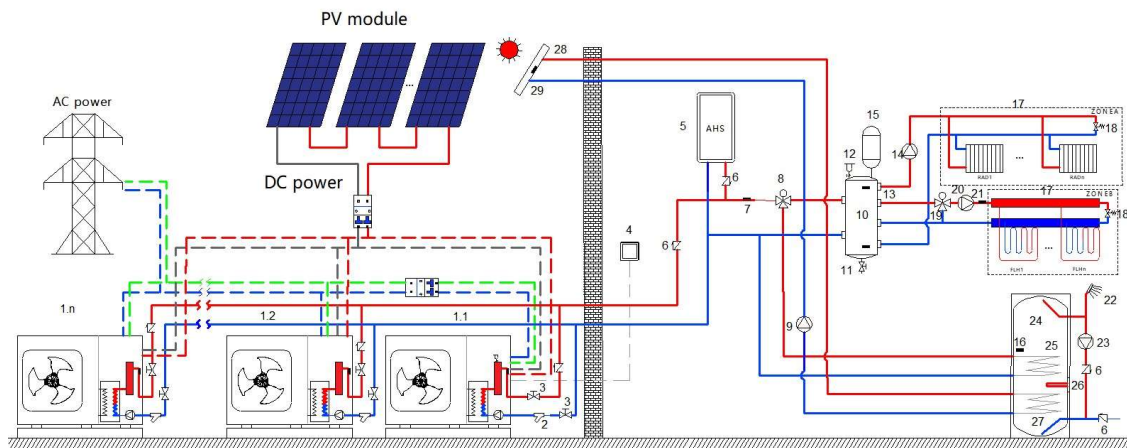

Figure 5-5
5.3 Cascade system is shown in Figure 5-5 below